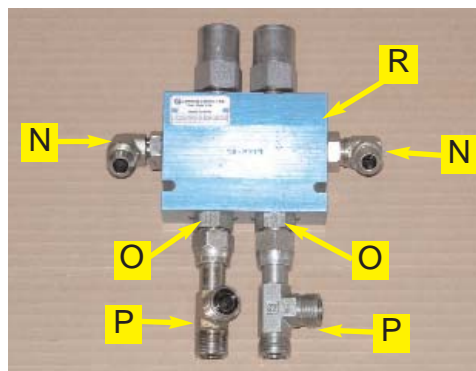

Figure 3. Assembled counter-balance valve block.
- a. Install the elbow fittings (N) into the V1 and V2 ports and straight adapter fittings (O) into the C1 and C2 ports of the counter-balance valve block (R). (Figure 3.)
- b. Install the run tees (P) to the straight adapters (O). (Figure 3.)